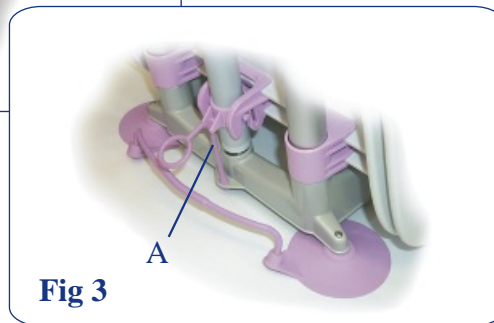

Fig 3
- Release the transit tie (A fig.3) by pulling up the ‘O’ ring and lifting the ball clear of the slot in the locating collar on the actuator stem.